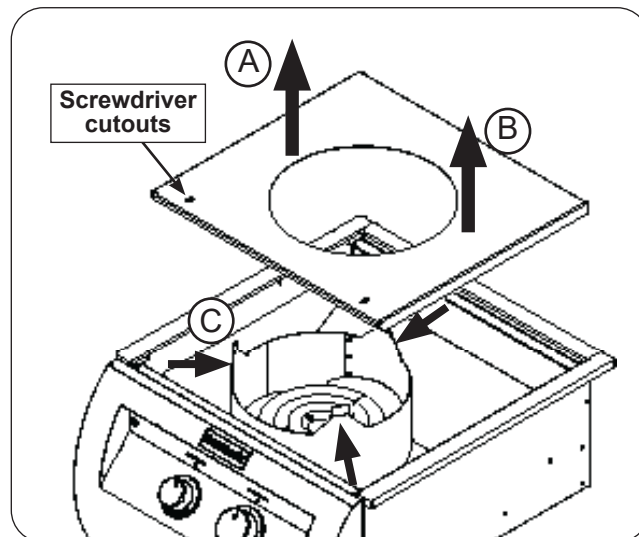

Fig. 39-1 Interior protection plate removal
2. Lift up the interior protection plate from the left side, then lift up from the right side (see Fig. 39-1, A and B).
3. While lifting the plate upward, flex the collimator inward to completely free the protection plate (see Fig. 39-1, C).